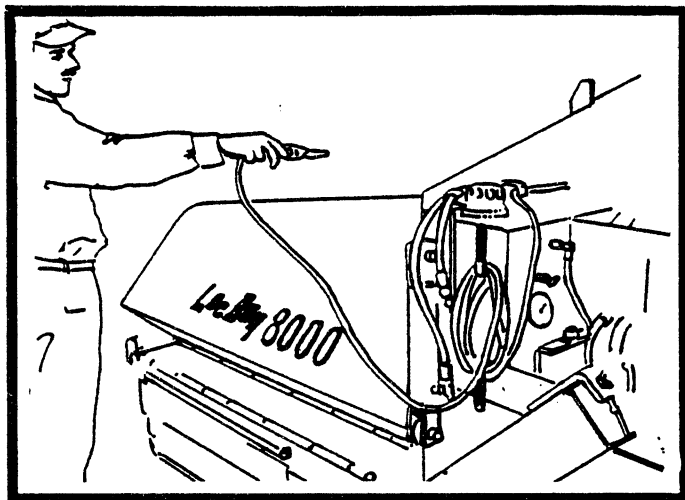

FIGURE 19
1. Raise screed and extend fully on both sides. Lubricate screed inserts with fuel oil and run the extendable screed in and out several times. Make sure end gate depth screw handles are locked after moving extensions to the desired depth. Spray the hopper, feeders and augers, auger gates of the screed plate with fuel oil as shown in Figure 19 and 20.